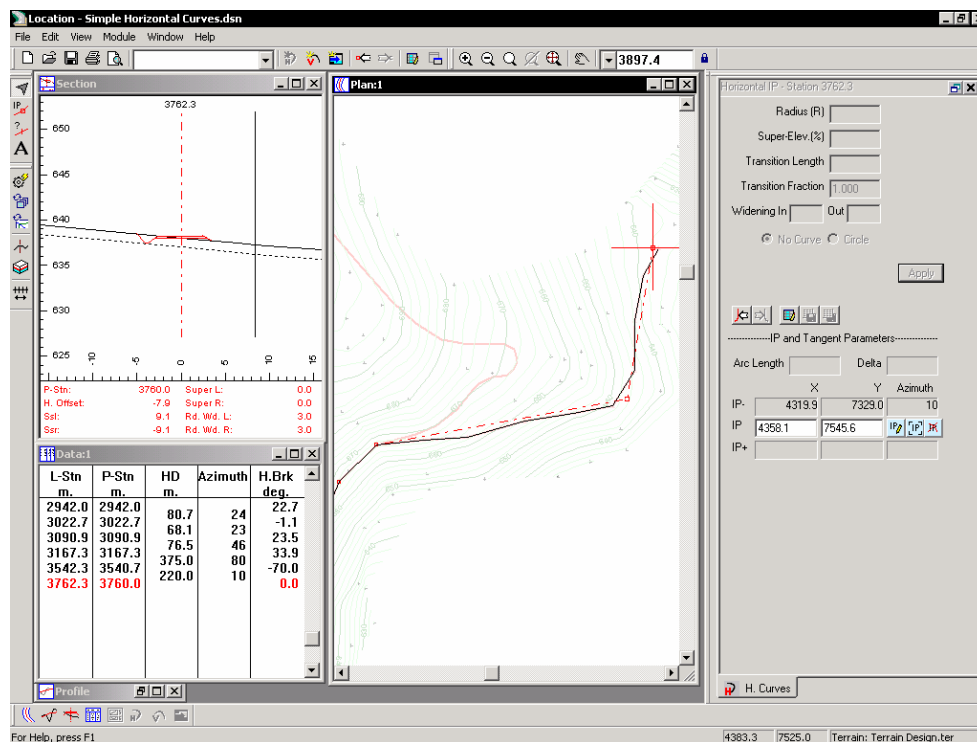

Figure 4.10: Simple Horizontal Curves.DSN
1. File|Open \RoadEng\Tutorial\Location\simple horizontal curves.DSN. The screen should look appear as the Figure 4.10.